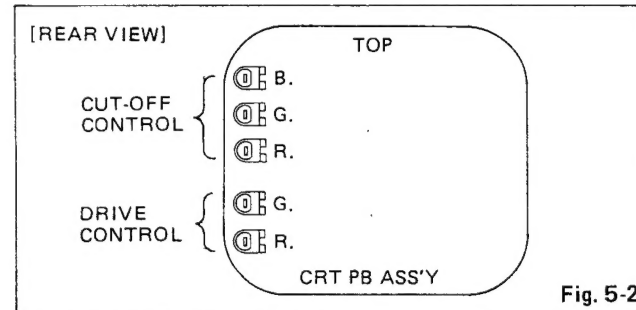

Fig. 5-2
4. Turn the green cut-off control to maximum and the red and blue cut-off controls to minimum. Then adjust the screen control so that the green band can be seen best. (Fig. 5-2, 4)
2. Set the red and green drive controls for their mechanical center (Fig. 5-2).